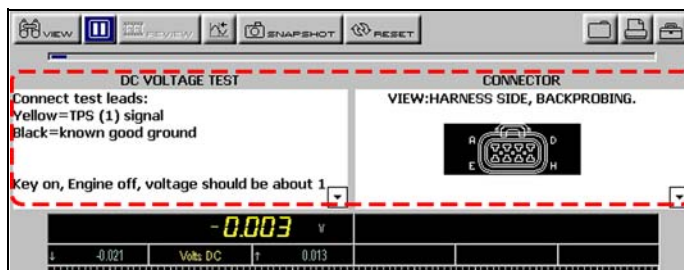

Figure 4-12 Sample connection instructions
- Follow the on-screen connection instructions (Figure 4-12).